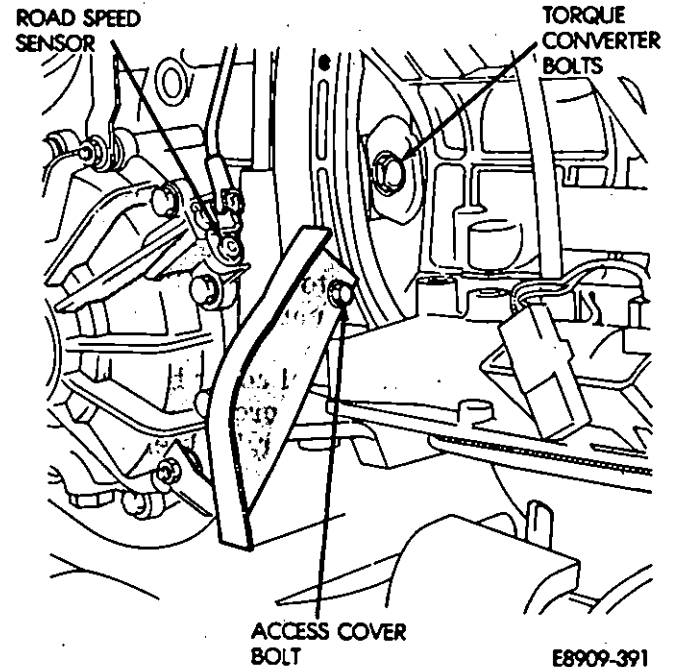

Fig. 22—Access Cover/Torque Converter/Road Speed Sensor
(1) Support the transaxle with brackets supplied with cradle dolly.
(2) Attach an overhead crane or engine lift to the lift brackets on the cylinder heads.
(3) Loosen the engine mount to cradle stud nuts.
(4) Remove the starter motor.
(5) Remove the access cover bolt (Fig. 22).
(6) Remove torque converter bolts one at a time (Fig. 22). Rotate engine until all bolts are removed.
(7) Remove transaxle road speed sensor (Fig. 22).